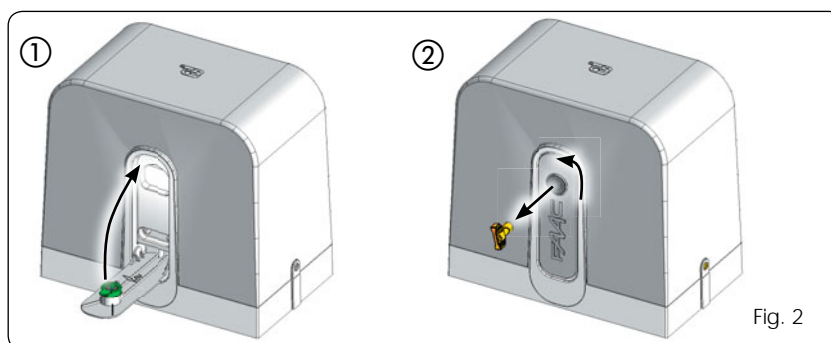

Fig. 2
1. Fully raise the release lever to the mechanical stop, Fig. 2 re. ①.
2. Turn the release anticlockwise as shown in Fig. 2 re. ②.